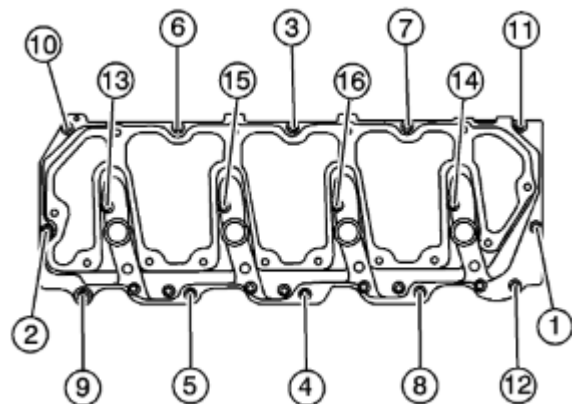

Fig. 77: Lower valve cover tightening sequence (both sides)
- b. Install the lower valve cover onto the driver's side cylinder head. Torque the bolts to 89 in-lb in the sequence shown in figure 77. Once all bolts have been torqued, re-tighten them to 89 in-lb in the same sequence.
- c. Repeat steps 7a and 7b for the passenger side lower valve cover. Reference figure 77 for the tightening sequence.